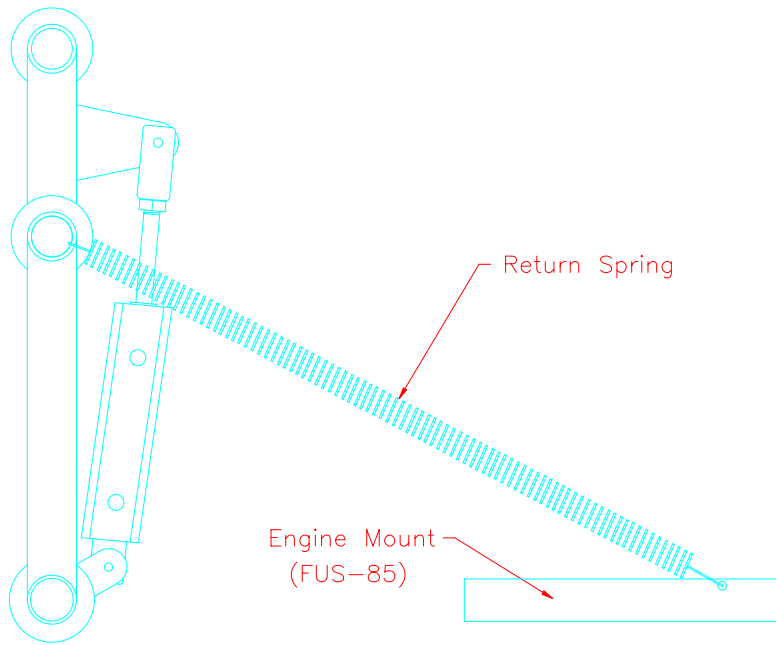

Figure 6
32) Drill a #40 hole part way through each outside tube of the Rudder Pedals. Drill a #40 hole into the side of the Bottom Engine Mount Bracket (FUS-85). Attach a Rudder Return Spring (311-606). Repeat for the other Rudder Pedal. Figure 6.